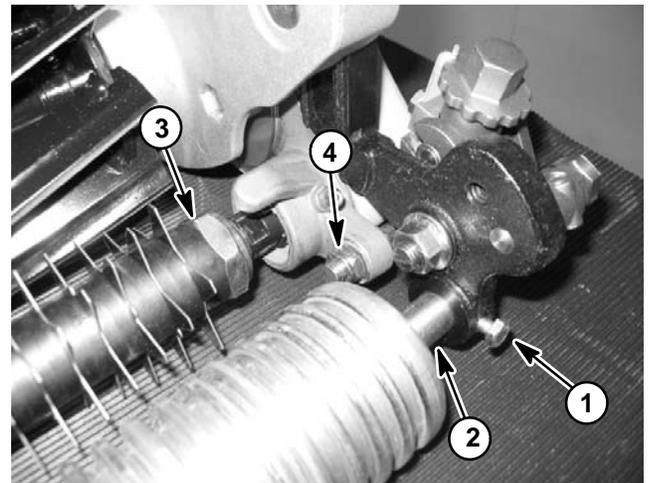

Figure 7
4. Remove groomer belt cover (item 3) and groomer drive belt (item 36) from groomer drive side of mower (see Groomer Belt Replacement in this section).
5. Loosen cap screws (item 20) that secure front roller shaft to groomer arms (Figs. 7 and 8).
6. Remove lock nut (item 25) and spring washer (item 24) that secure drive side groomer arm lift rod to drive side plate (Fig. 7).
7. Remove lock nut (item 35), tab washer (item 34) and plow bolt (item 27) that secure drive side groomer arm assembly to drive side plate. Do not change height-of-cut screw adjustment. Remove drive side groomer arm assembly from cutting unit.
13. Apply antiseize lubricant to threads of lift arm assembly stud on groomer arm. Install spring washer (item 24) and lock nut (item 25) to secure drive side groomer arm assembly to groomer side plate (Fig. 7).
14. Center front roller and tighten cap screws (item 20) to secure roller (Figs. 7 and 8).